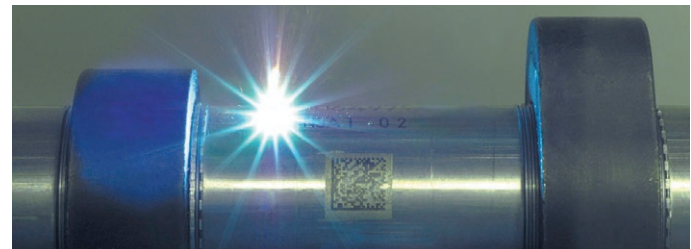

Figure 2: ID Matrix contrast on metals can be improved by using two passes; one to create a light background and the second to mark the dark code
4. Faster marking can be better – two or more passes, sometimes each with different parameters, can yield better results than a single slower pass in the same total mark time. Deeper marks can be produced with many repeated rapid passes – erosion engraving – rather than one slow, thermally-damaging pass. Another trick that is useful when good contrast is essential, for example when marking a barcode onto bare metal, is to etch the whole region of the code with a mark to lighten up the metal, and then mark the dark bars on top. See figure 2.